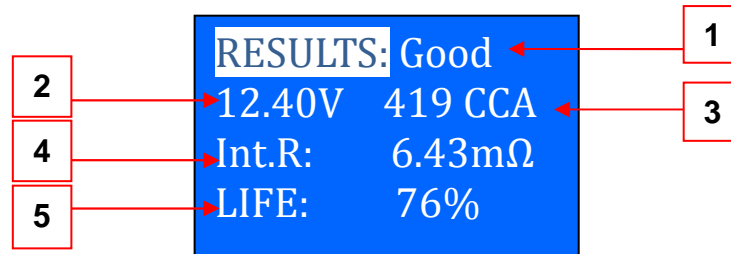

Figure 24
14. For less than 5 seconds, the results of the testing will be displayed on the LCD screen. (Fig. 24)